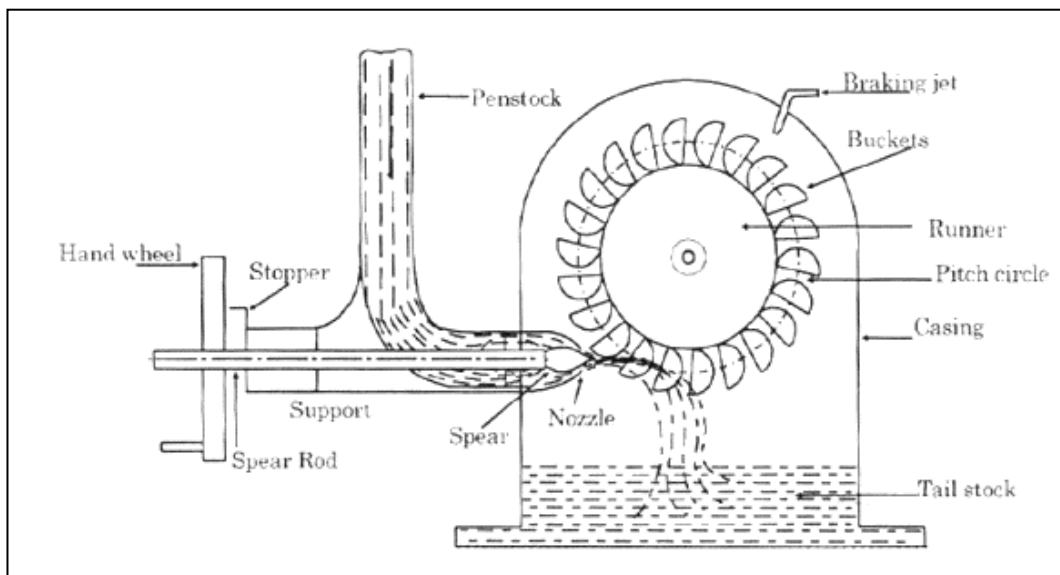

Figure 8: Schematic diagram of a Pelton turbine
1. Start the pump, adjust the nozzle opening about half, note down the pressure gauge, vacuum gauge readings, speed of the turbine, manometer readings (h_1 & h_2), and calculate output power, input power, and efficiency of the Pelton wheel turbine, using the experimental setup, shown in Figure 8.